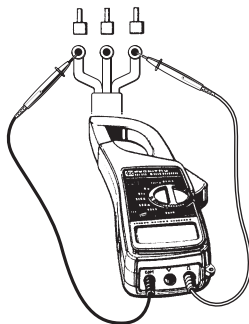

Fig.9
- (4) Connect the clips of the test leads to the circuit under test. Take the reading on the digital display. (Fig.9)